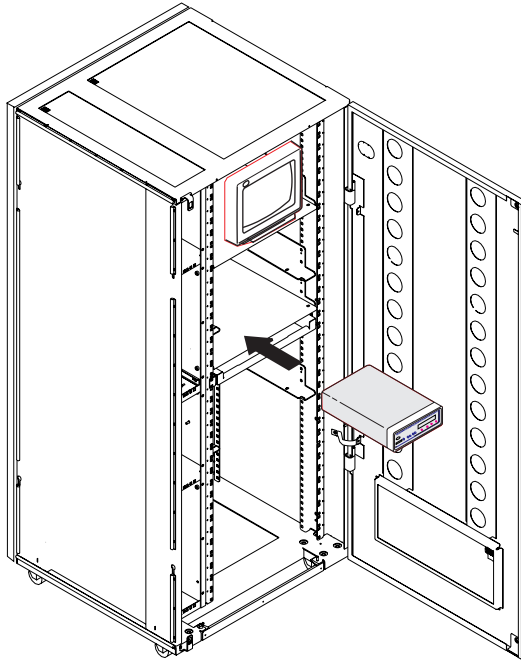

Figure 1-29. Installing the 7857 in the Controller Expansion
3. ____ Slide the 7857 in the controller expansion as shown in Figure 1-29 on page 1-32.